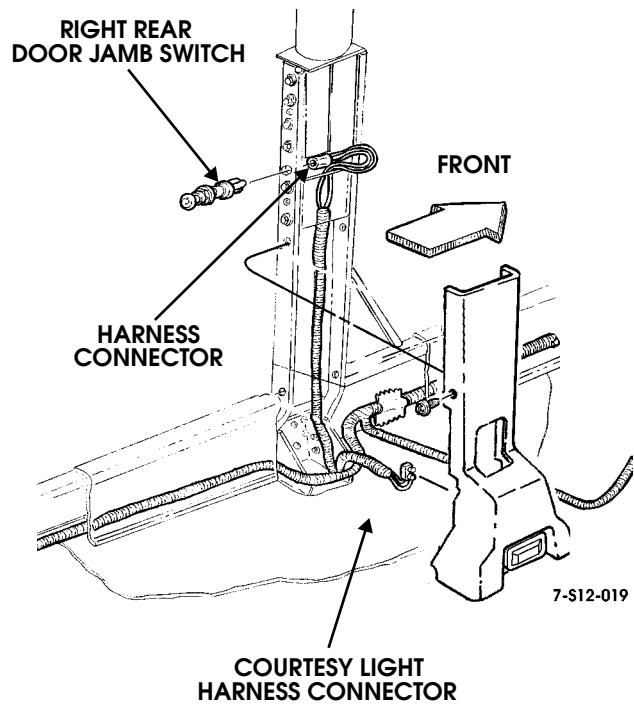

Figure 12-108: Courtesy Light
- Disconnect roof harness connector from right rear door jamb switch (Figure 12-108).
6. Connect roof harness connector to right rear courtesy light, if installed (Figure 12-108).